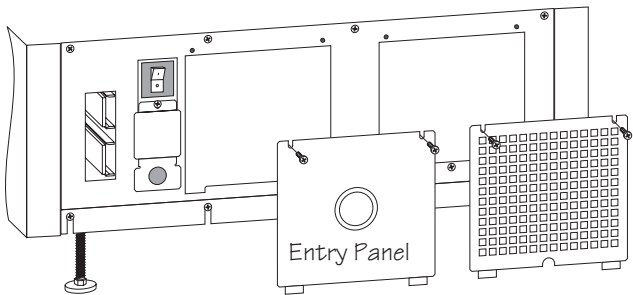

Fig 4-1 Removal of Input Hardwiring Panels
1. Refer to figure 4-1. Locate the input wiring entry and input wiring inspection panels at the rear of the frame.